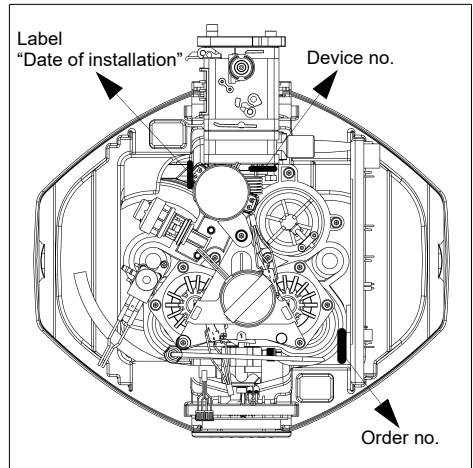

Fig. 12: Device and order no. plus label “Date of installation”
- Enter the date of installation on the label (see fig. 12).